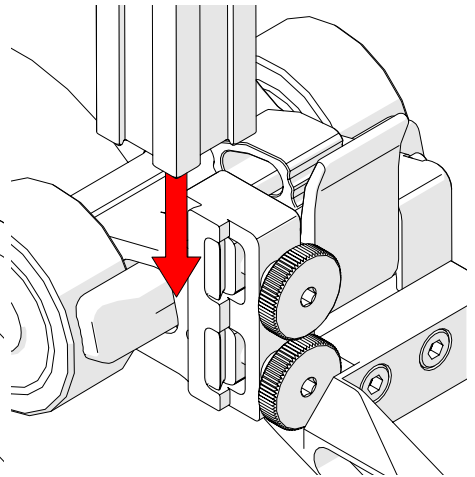

Fig. 35 - Attach frame bar to dovetail
2. Slide the frame bar over the two dovetails of the low profile link (Fig. 35).